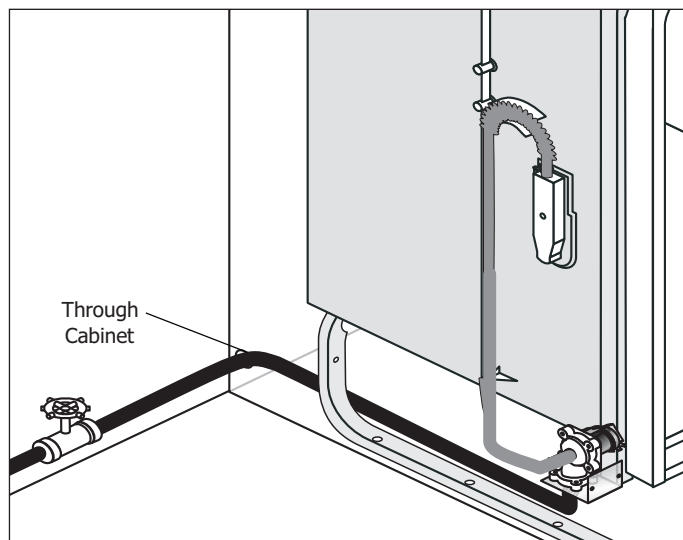

Figure 2-4.
3. Determine amount of tubing needed to connect hot water supply to the unit's water inlet valve. Copper tubing must have a minimum 3/8" OD. High-pressure and high-temperature rated plastic tubing with a minimum inner diameter of 1/4" may be used. A shut-off valve installed outside dishwasher cabinet is best. (See Figure 2-4).